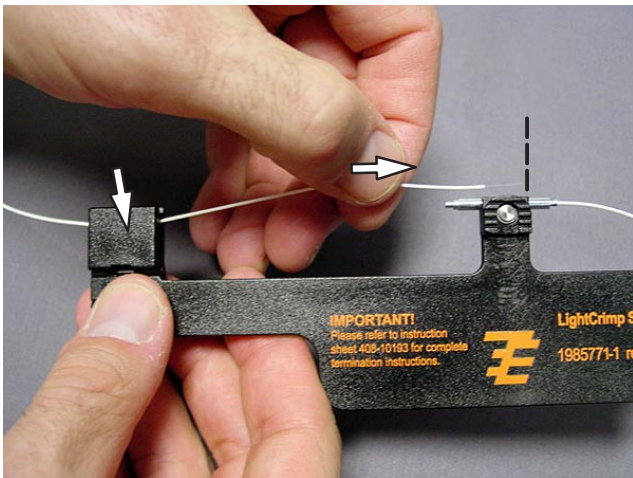

Figure 18
7. Open the clamp on side B and align the tip of the fiber with the edge of the holder as shown in Figure 18.